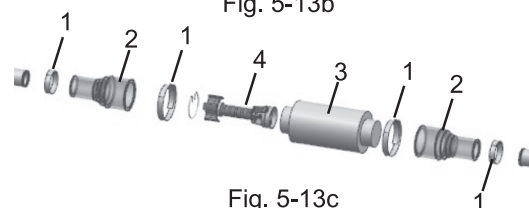

Fig. 5-13c
- (1) Remove all hose warm clips (1) Fig. 5-13c.
- (2) Separate the Hose pipes (2) Fig. 5-13c from Strainer Assy.
- (3) Remove the magnetic strainer (4) from the housing (3).
- (4) Clean the strainer and refit the same.
- (5) Fix the hose pipes and tighten the hose warm clips.